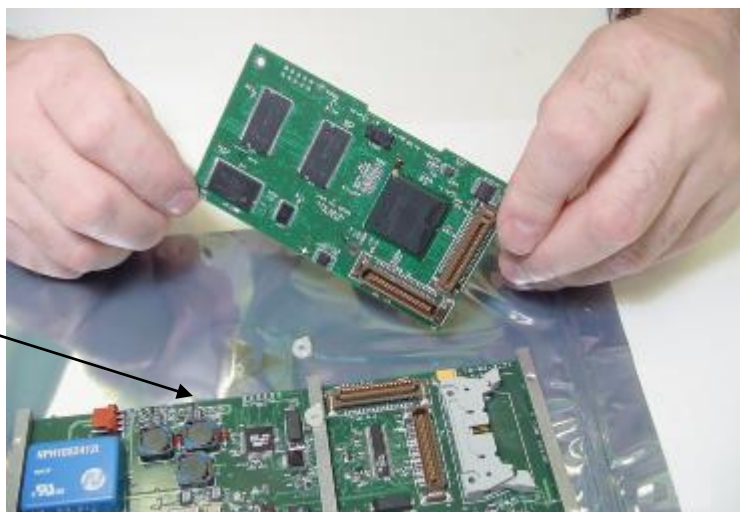

Figure 5.3b
- (3) Remove the new PC-323 board from its electrostatically-protected container. Ensure the nylon spacer is in place on top of the mounting bar and over the threaded hole. (See above photograph, **Figure 5.3b**). Align the two (2) 40-pin connectors and press the board into place.